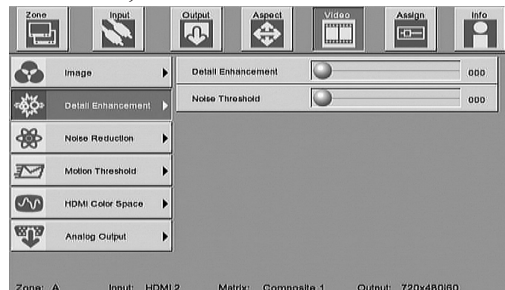

Figure 71
2. Select the VIDEO Icon, then select the DETAIL ENHANCEMENT Icon. Refer to figure 71.